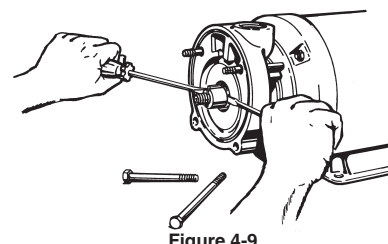

Figure 4-9
- f. Holding the screwdrivers at approximately 3 o'clock and 9 o'clock, push the handles in toward the motor body, using the motor bracket for leverage. Refer to Figure 4-9. This pro-